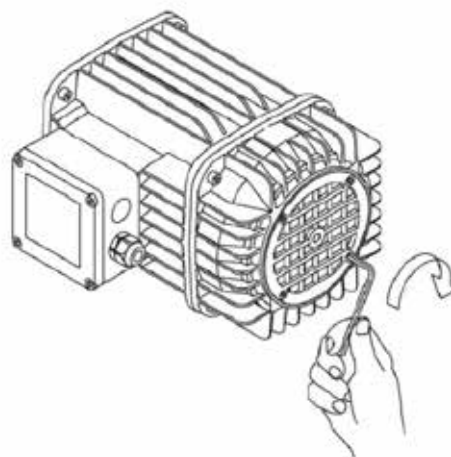

fig.130
8. Put the grille (vent) back in place and fully tighten the four screws. (fig.130)